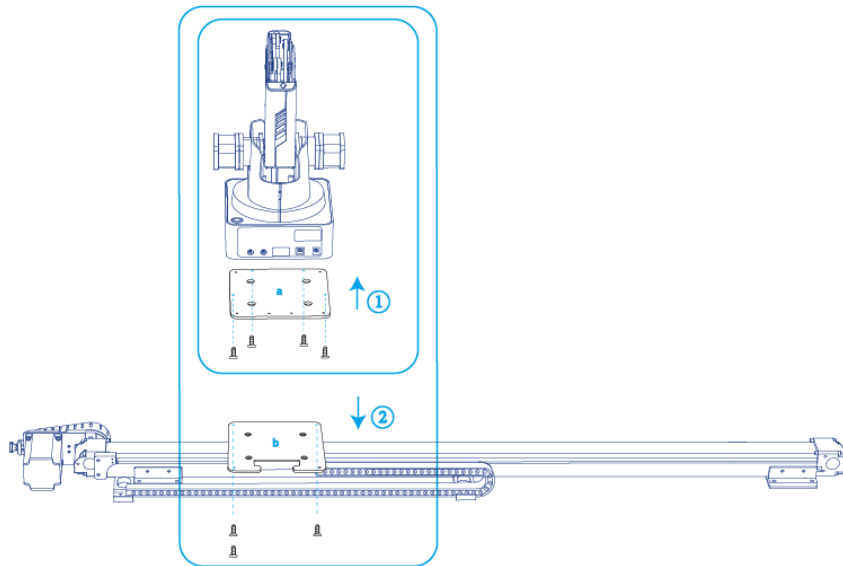

Figure 5.188 Fixed position with screws
- Step 2** Fix the plate **a** (with Dobot Magician) on the plate **b** with three M3*8 hexagon socket head cap screws. Please make the back of the base of Dobot Magician towards the rabbet on the plate **b**, as shown in Figure 5.188.